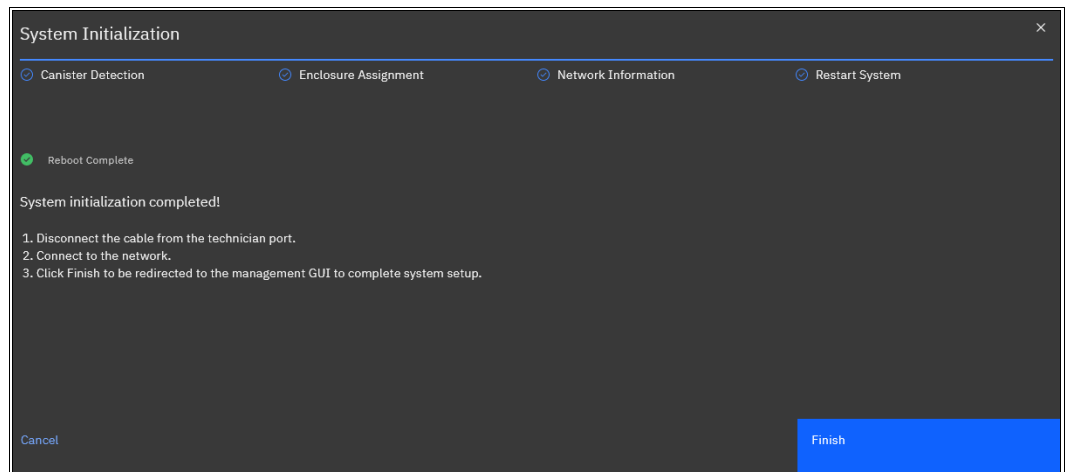

Figure 3-9 System Initialization completed
8. The System Initialization completed wizard is shown in Figure 3-9. Click **Finish**.